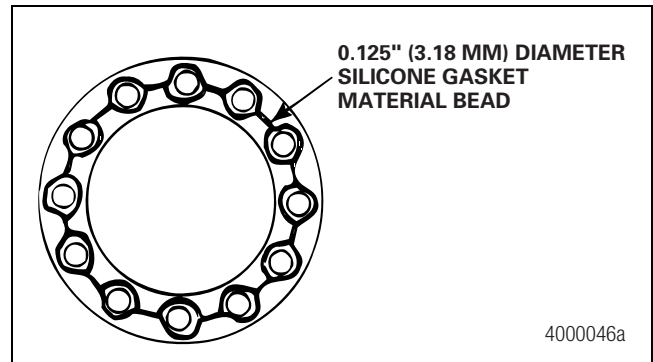

Figure 5.7
3. Apply a 0.125-inch (3.18 mm) diameter continuous bead of silicone gasket material around one surface. Also apply the gasket material around the edge of all the fastener holes on that surface. Figure 5.7.